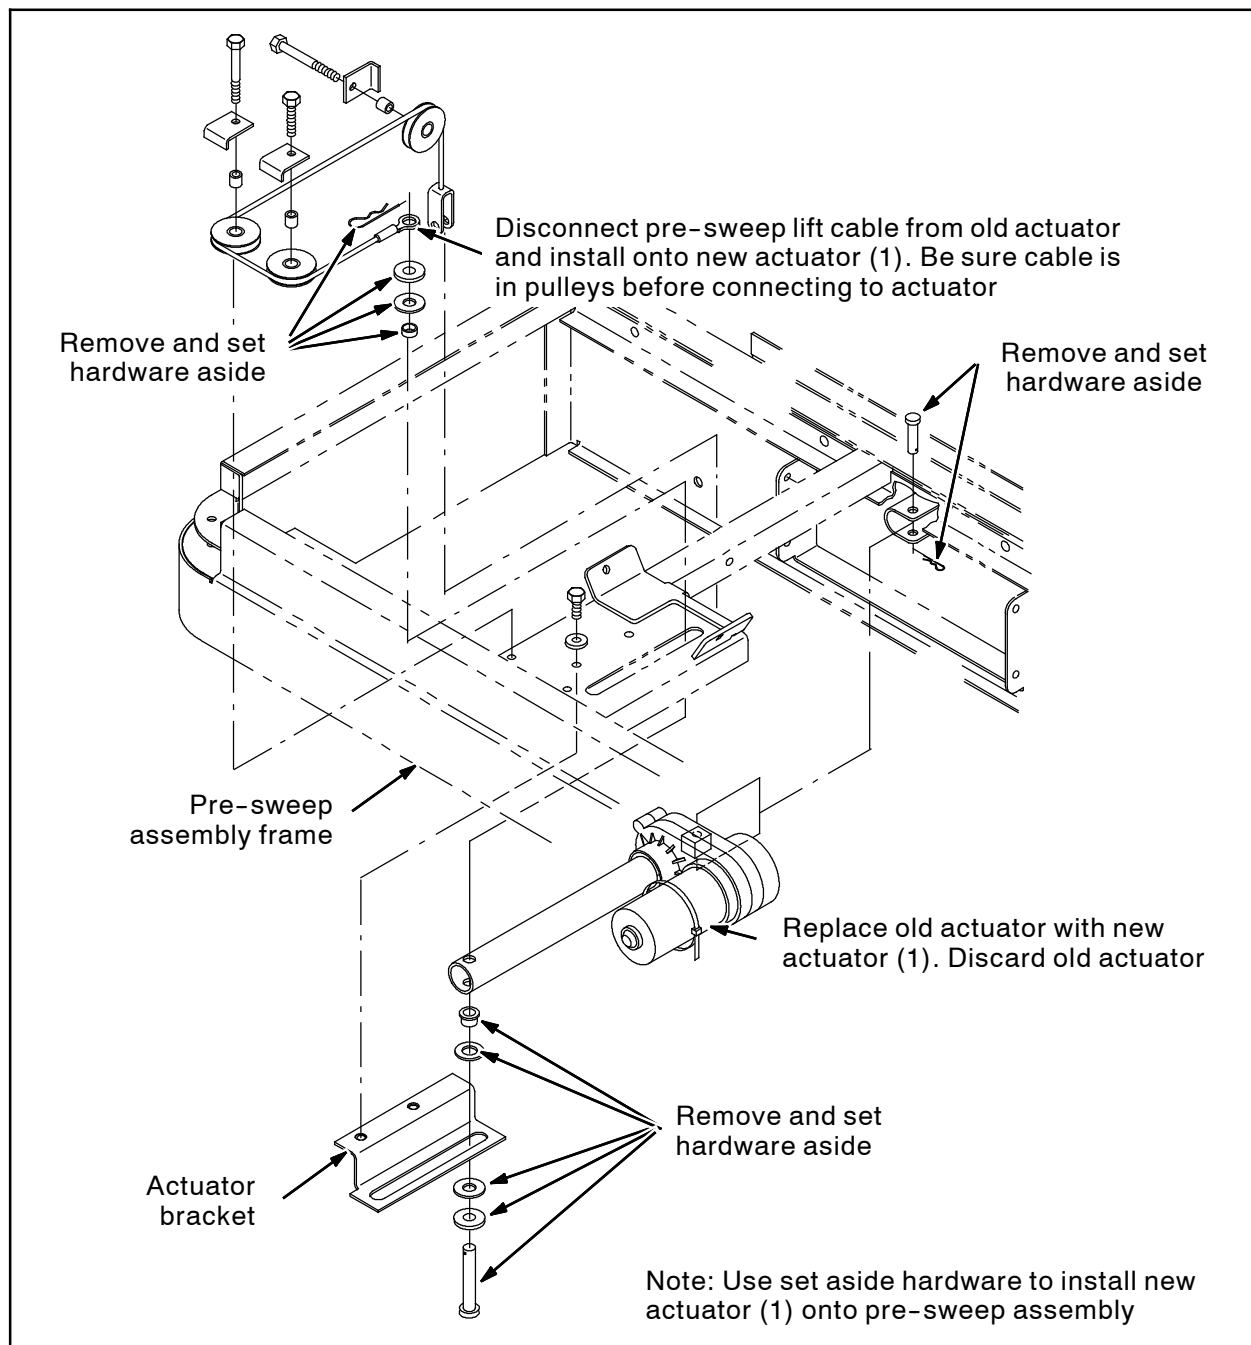

FIG. 2
1. Disconnect the pre-sweep harness from the actuator and remove the actuator from the pre-sweep assembly. Set all mounting hardware aside. Discard the old actuator. Refer to Fig. 2.
3. Install the actuator (1) into the pre-sweep assembly and connect the pre-sweep lift cable to the actuator. Be sure the pre-sweep lift cable is on the pulleys before connecting it to the actuator. Refer to Fig. 2.
4. Connect the pre-sweep harness to the actuator (1). Refer to Fig. 2.